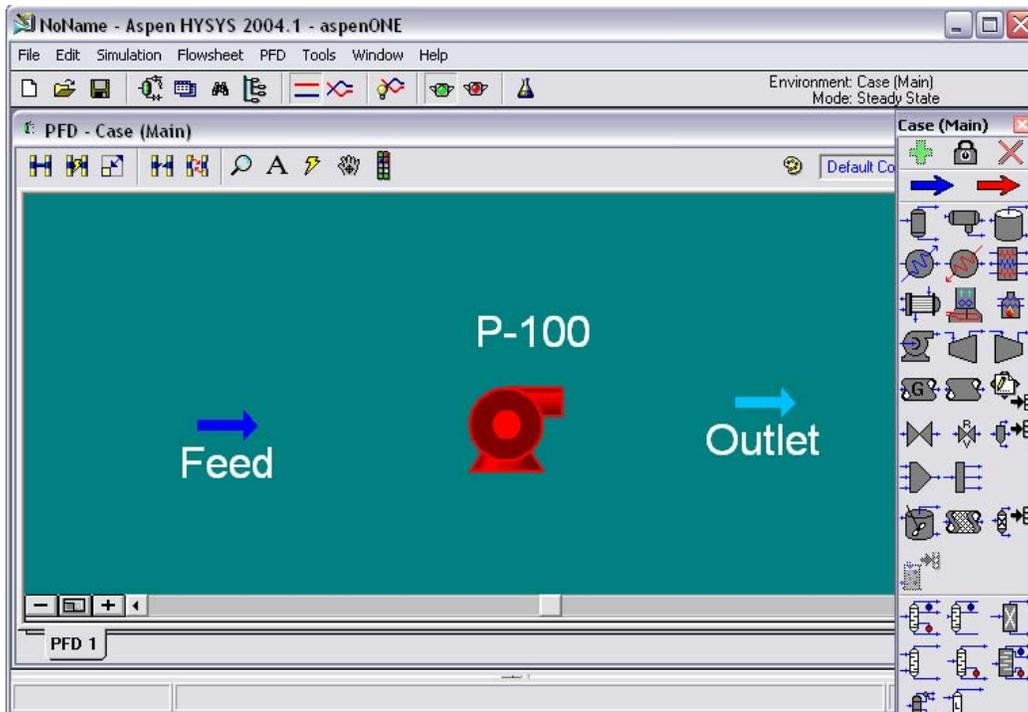

Figure 3-1: Installing Pump in HYSYS
2. This will install a pump on the PFD as shown in Figure 3-1.
1. From Figure 3-1, double-click on the **Pump P-100** icon to open the pump window as shown in Figure 3-2.